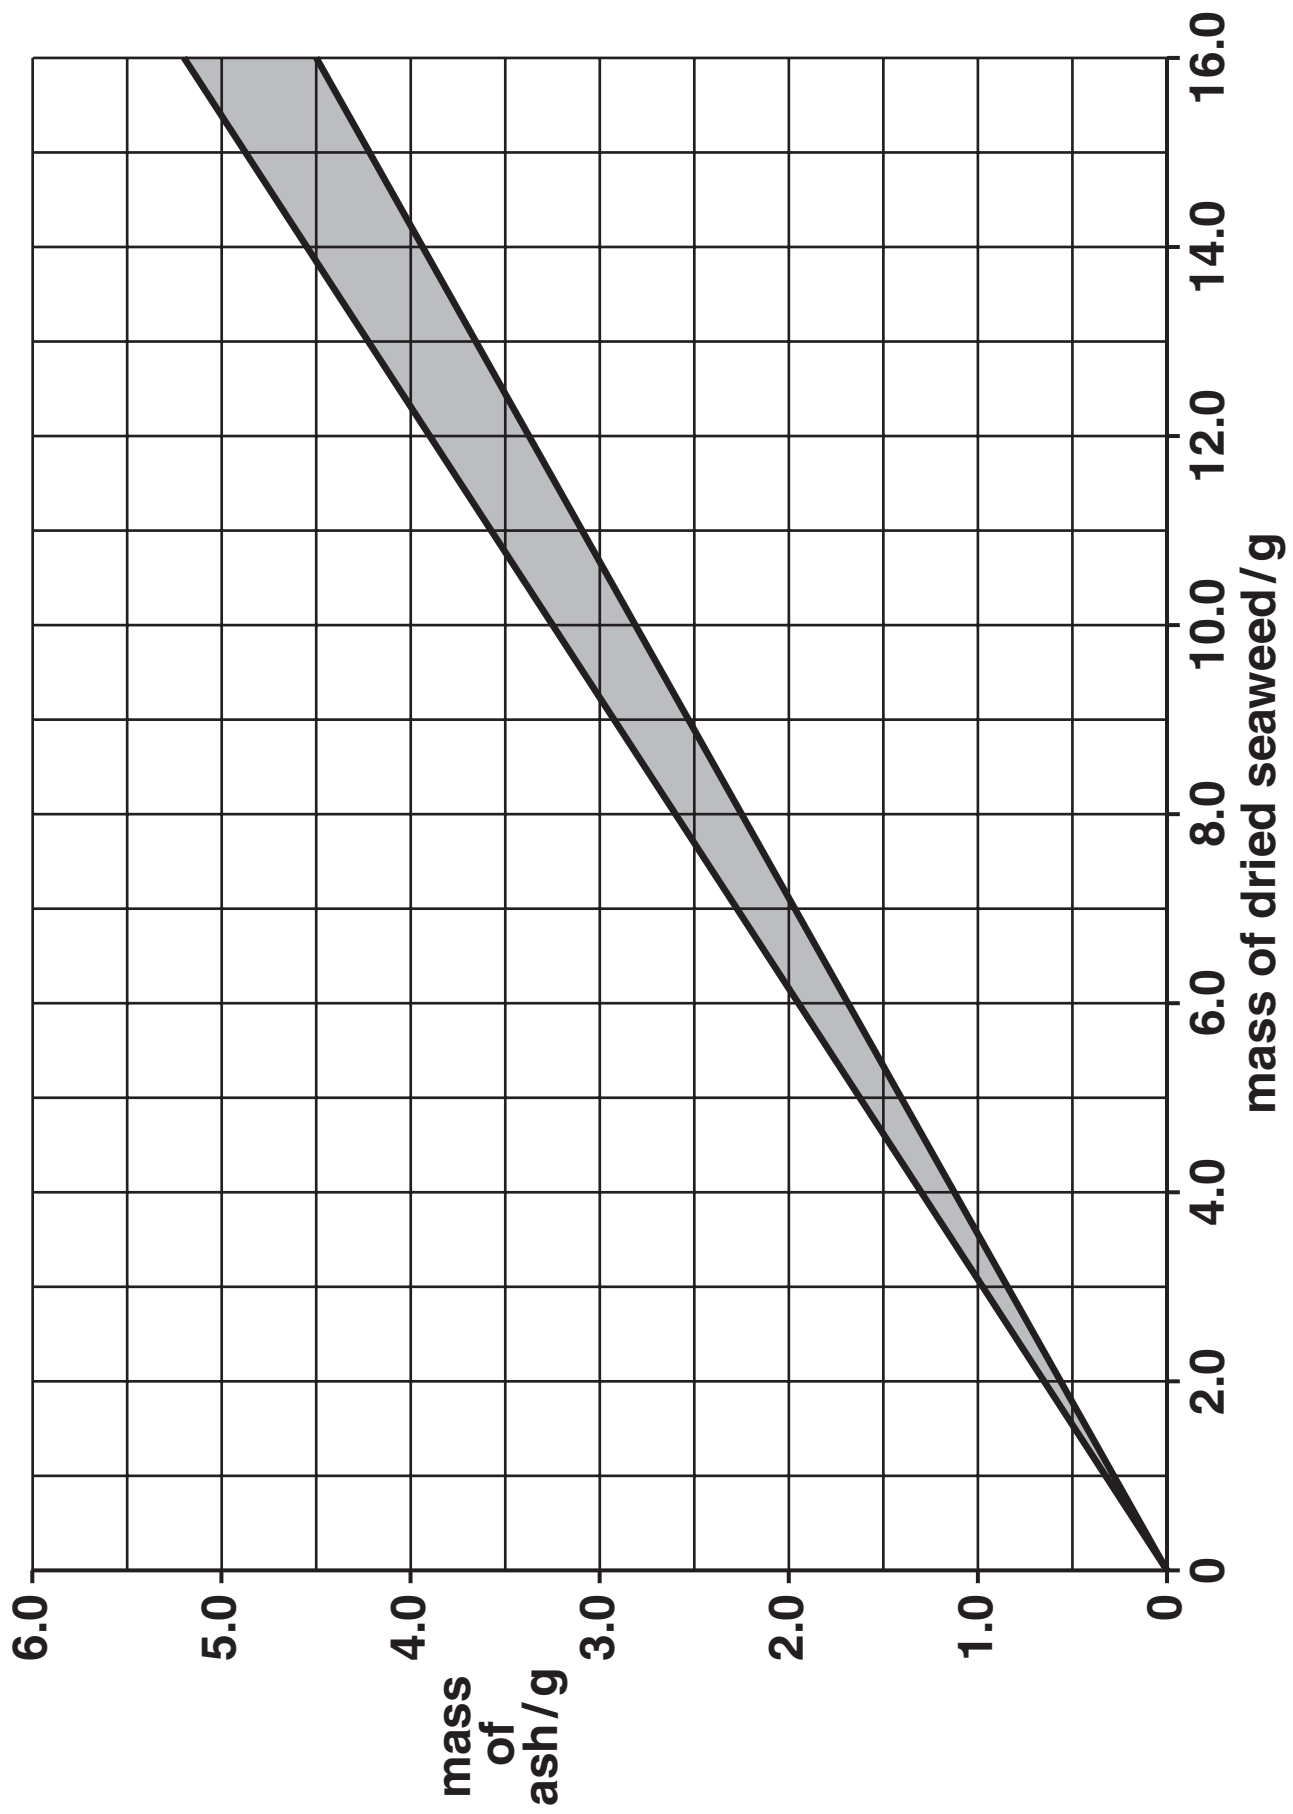

Fig. 1.4
- (iv) The ash is then cooled and its mass recorded in Table 1.1. One way of telling if combustion is complete is to use the graph, Fig. 1.4. For a result to be acceptable, the mass of the ash needs to lie within the shaded area of the graph.
Use the graph, Fig. 1.4, to decide which of the samples A, B or C has given unacceptable results.